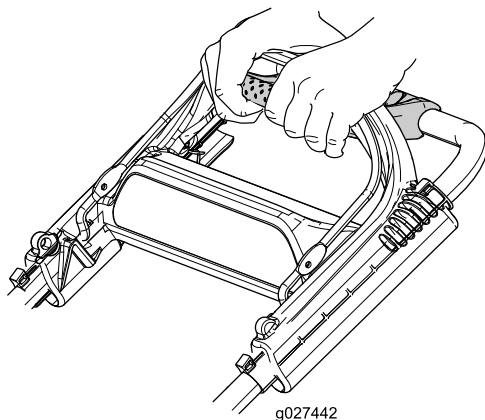

Figure 16
1. Reach forward with your fingertips and grasp the corners of the traction-assist handle (Figure 16).